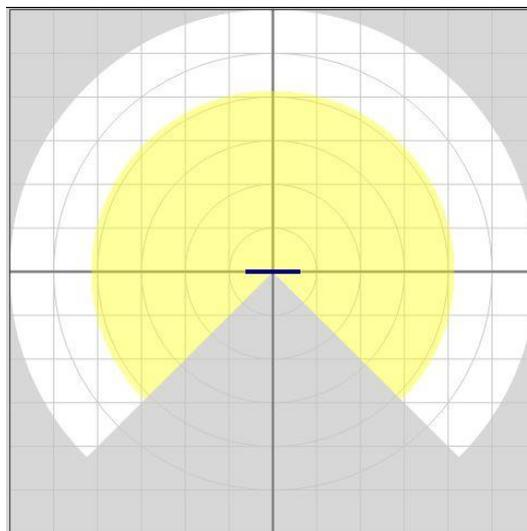

Figure 4.2.1.2.2 Default position of dependent offset bar
- It is possible to delete the offset value of the point by right-clicking of the mouse when the offset bar is selected, or press delete or the backspace key on the keyboard. The offset bar as shown in figure 4.2.1.2.2.will be displayed in the default position of the coordinate origin.